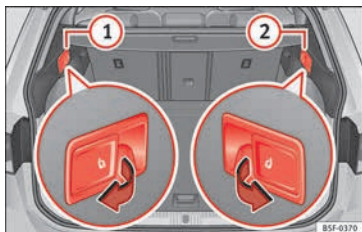

Fig. 151 In the luggage compartment: levers for remote release of the left part (1) and right part (2) of the rear seat backrest.
- Pull the remote release lever of the left part » **Fig. 151** (1) or right part (2) of the backrest in the direction of the arrow. The released part of the rear seat backrest is folded automatically down and forwards.